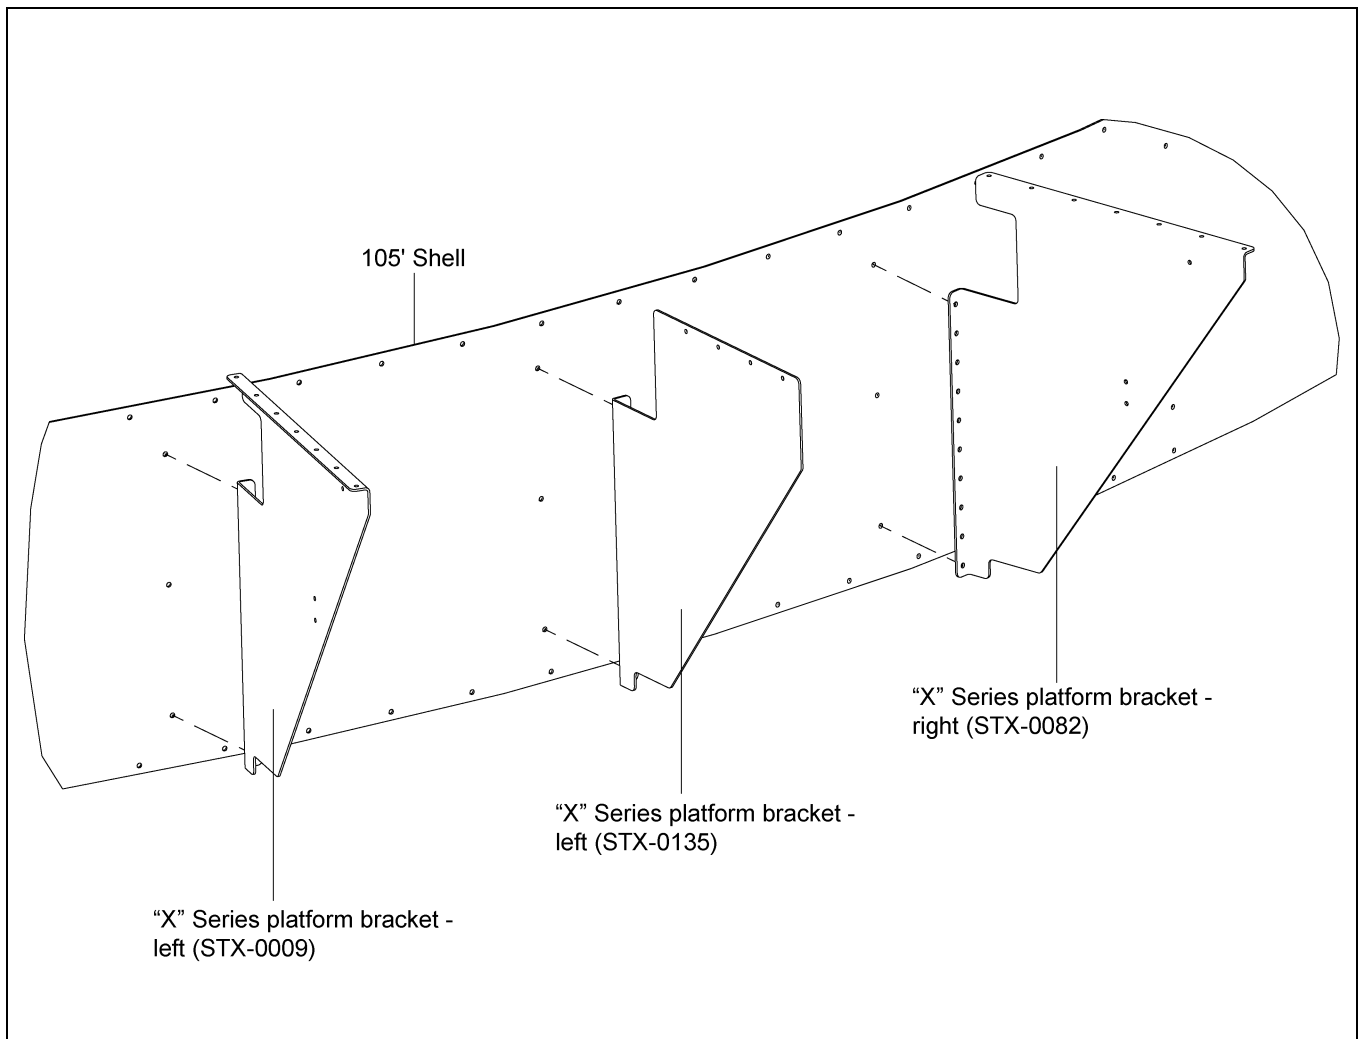
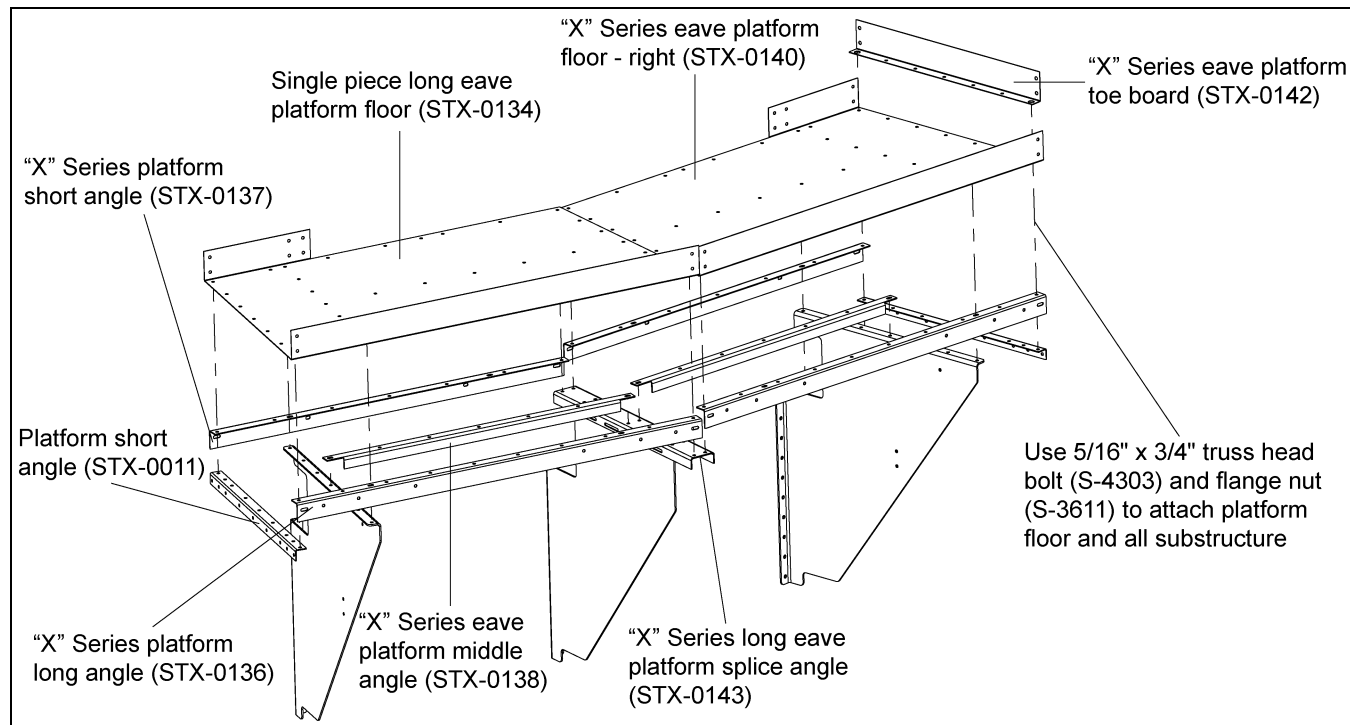

Figure 4M
Figure 4N
1. Figure 4M below and Figure 4N on Page 26 shows the assembly of the platform supports. Use 5/16" hardware at all the connection points. (Platform floor will have to be attached at the same time as support angles.)